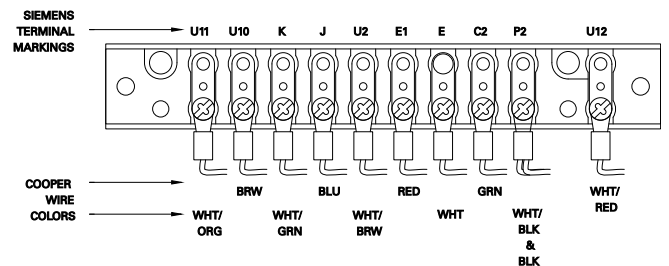

Figure 25. Siemens Corporation terminal connector with markings and wire colors—wired for use with source-side PT
18. Review the Siemens Corporation nameplate to determine correct overall Potential Transformer (PT) ratio entered at FC 44 on control. Divide the Load Volts shown by the corresponding Control Volts to obtain the Overall PT Ratio.
19. If a source-side PT will be used, on the terminal connector (**Figure 25**), move the white/brown wire from terminal P2 and place it on terminal U2. If this is not done, the control will use a calculation to determine the source-side voltage. If utilizing a source-side PT, make sure to enter the Internal PT Ratio into the control at FC 44I. The Internal PT Ratio can be determined by dividing the Source Volts shown on the nameplate for reverse power flow by the corresponding Control Volts. Also, when using a source-side PT, the Vin PT Configuration (FC 146) must be set for Vin Mode.